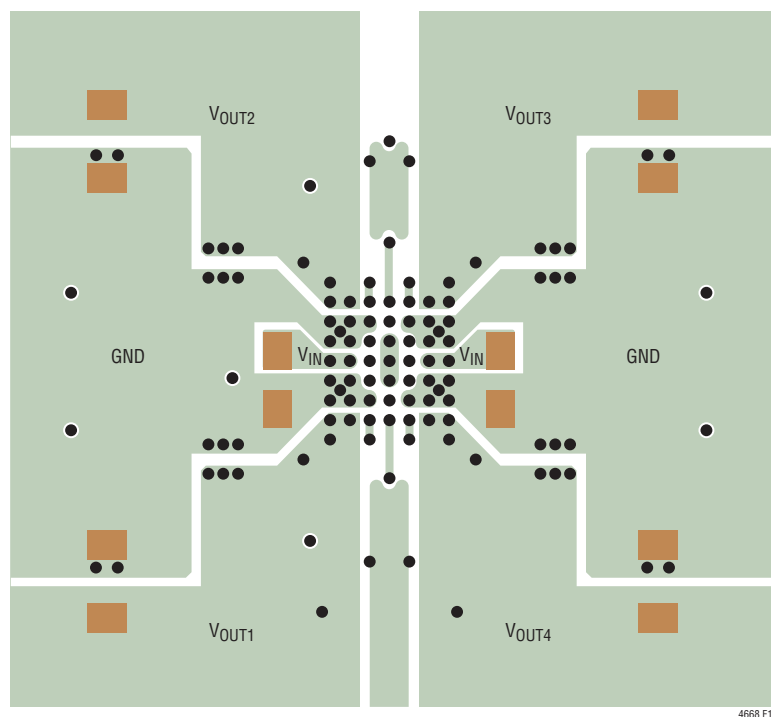

Figure 16. Recommended PCB Layout
- Figure 16 gives a good example of the recommended layout.